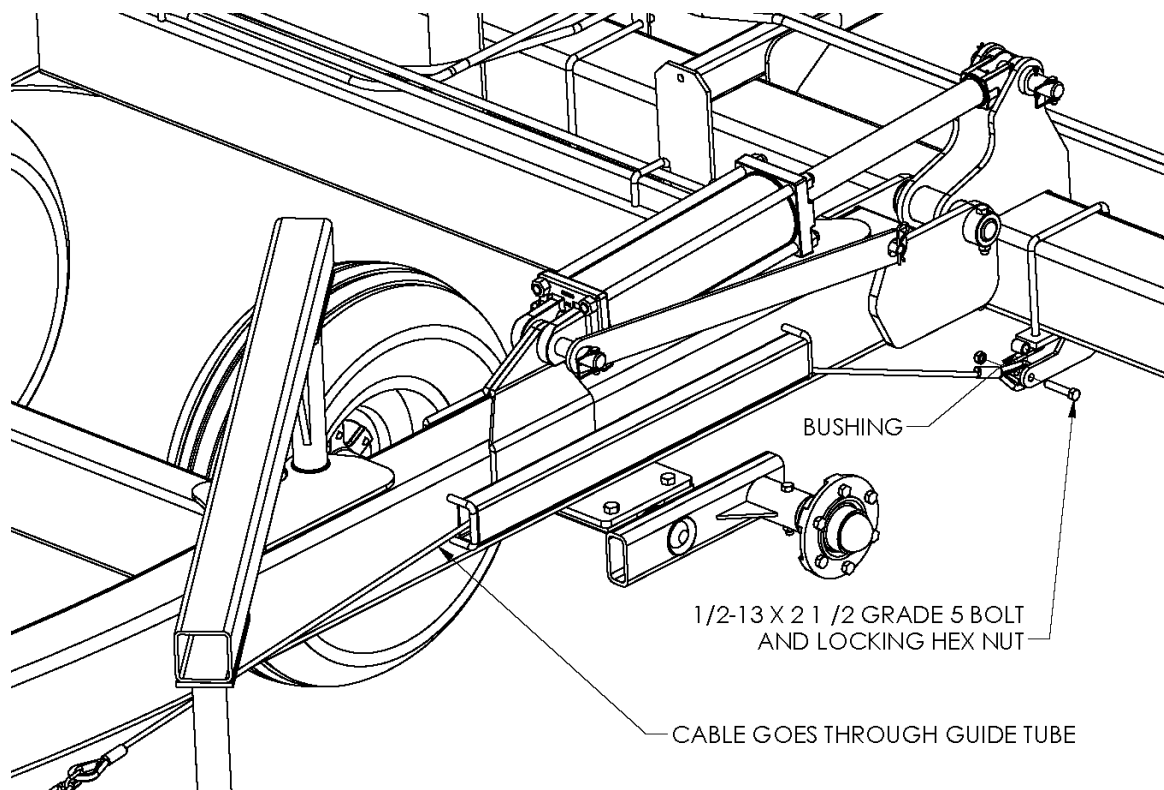

Figure 21
1. Slide a 3/8" cable through the frame cable guide tube. Refer to Figure 21.